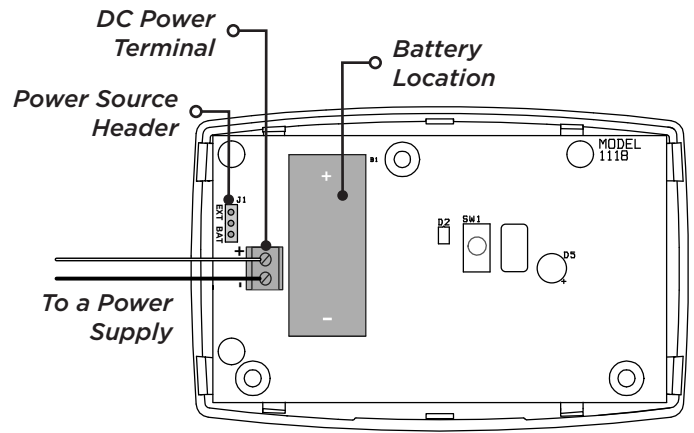

Figure 3: Connected to a Power Supply
3. Place the battery in the holder and press it into place. See Figure 3 for the battery location.
Using 22 AWG wire, connect the DC power terminal block on the 1118 to the DC power terminal on the 505-12 power supply PCB. Observe positive and negative polarity on all connections. See Figure 3.
2. Remove the existing battery. See Figure 3 for the battery location.